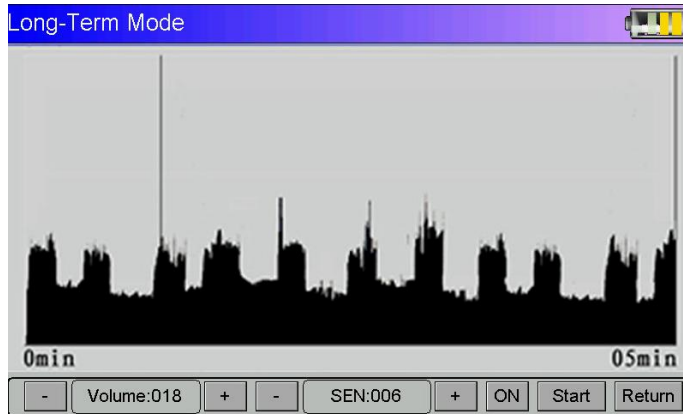
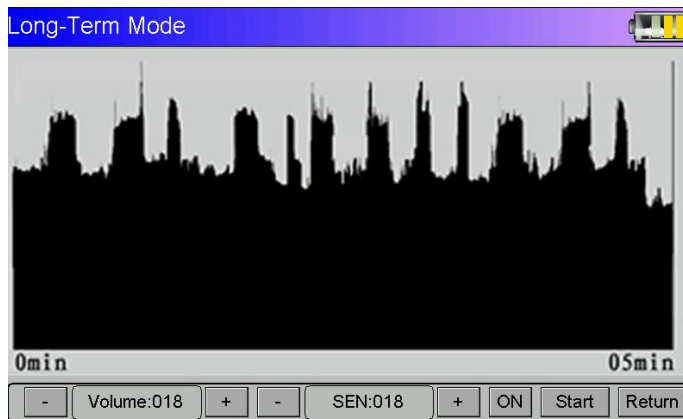

Figure 5
Figure 6
- Intermittent increase and decrease in water pipes and a larger amplitude: whether to raise or lower the sensitivity, the recess amplitude of increase and decrease is not big, can judge where no leaking. (See Figure 5 , Figure 6)